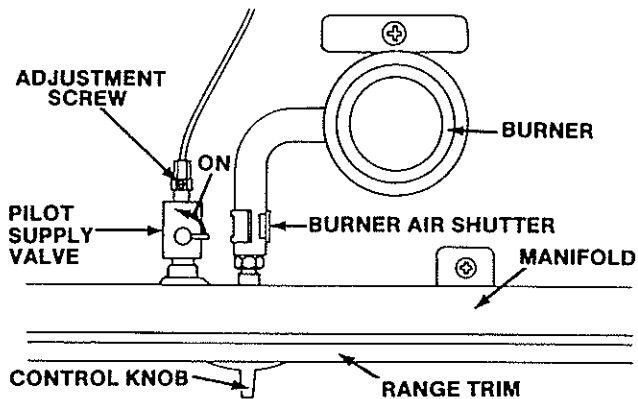

Figure 2
- d. Turn pilot supply valve on (Figure 2).
- c. Wait approximately (7) seconds and push red igniter button.
5. Check flames of top burners and oven burner; adjust air mixture if necessary. To adjust burner flame, turn burner's air-shutter (see Figure 2) to increase air mixture until flame has yellow tips but does not lift off burner ports. Then, adjust air-shutter until the yellow tips of the flame are eliminated. This will provide maximum flame efficiency without flame blow-out.